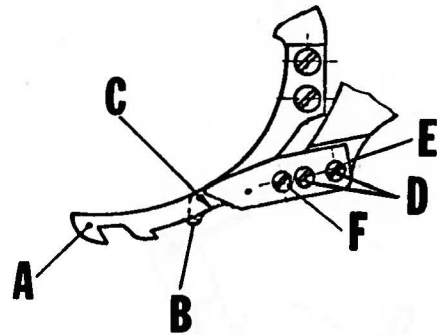
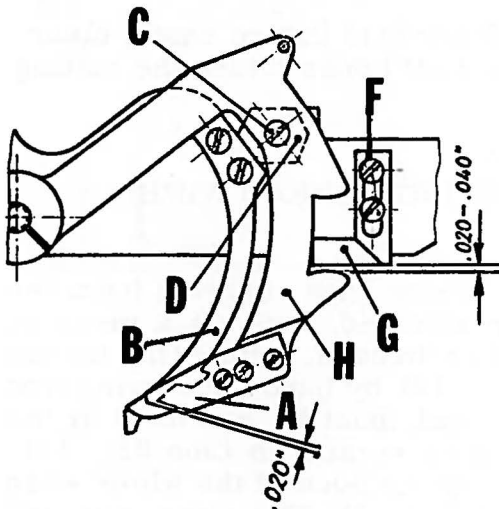
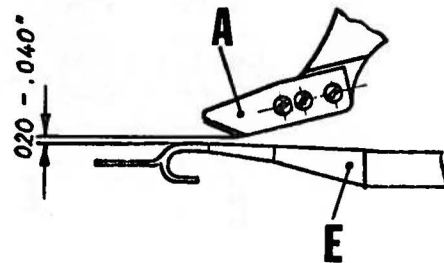
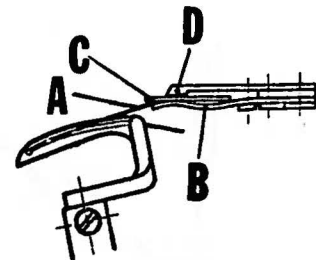

Fig. 8
Fig. 9
Fig. 9A
Fig. 10
To avoid pinching the needle thread when the lower knife (A, Fig. 8) swings out, the edge of the lower knife and the cut-out on the looper thread retaining plate spring (B) must be in alignment as shown at point (C). To obtain this adjustment loosen screws (D), move the upper knife (E) and plate spring (B) as required, retighten screws (D)
With both knives in their resting position, the upper knife (A, Fig. 9) must overlap the lower knife (B) approximately .020 inch. Adjustment can be made by loos-
ing screw (C) and rotating the hexagonal stop plate (D). Retighten screw. With the needle in up-position and the lower knife swung-in, a clearance of .020 - .040 inch must be maintained between the upper knife (A, Fig. 9A) and loop retainer (E). Adjustment can be made by loosening screws (F, Fig. 9) and moving stop (G) forward or rearward. Care must be taken to also maintain .020 - .040 inch clearance between stop (G) and the corresponding edge of the upper knife carrier (H), with the cutting solenoid in its resting position. Retighten screws (F). The looper thread (A, Fig. 10) must be clamped between the plate spring (B) and lower knife (C) after being severed by the upper knife (D). Tension on the looper thread retaining plate spring can be adjusted by turning the tension regulating screw (F, Fig. 8).